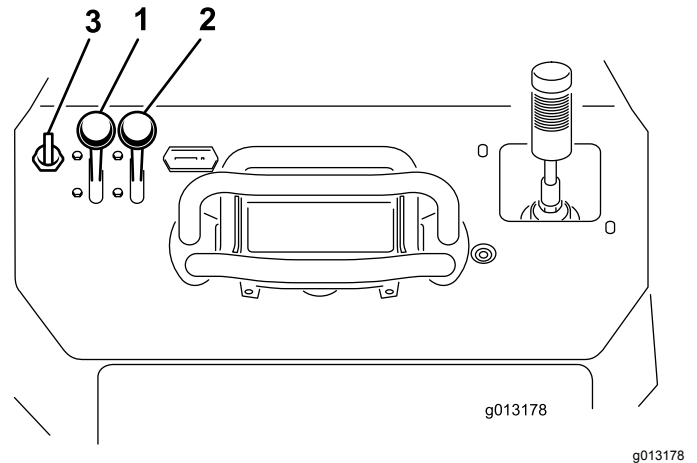

Figure 16
1. Move the throttle lever midway between the SLOW and FAST positions (Figure 16).
2. Move the choke lever to the ON position (Figure 16).
3. Turn the key to the ON position (Figure 16). When the engine starts, release the key.
4. Gradually move the choke lever to the OFF position (Figure 16). If the engine stalls or hesitates, engage the choke again until the engine warms up.
5. Move the throttle lever to the desired setting (Figure 16).
2. Move the throttle lever to the SLOW position (Figure 16).